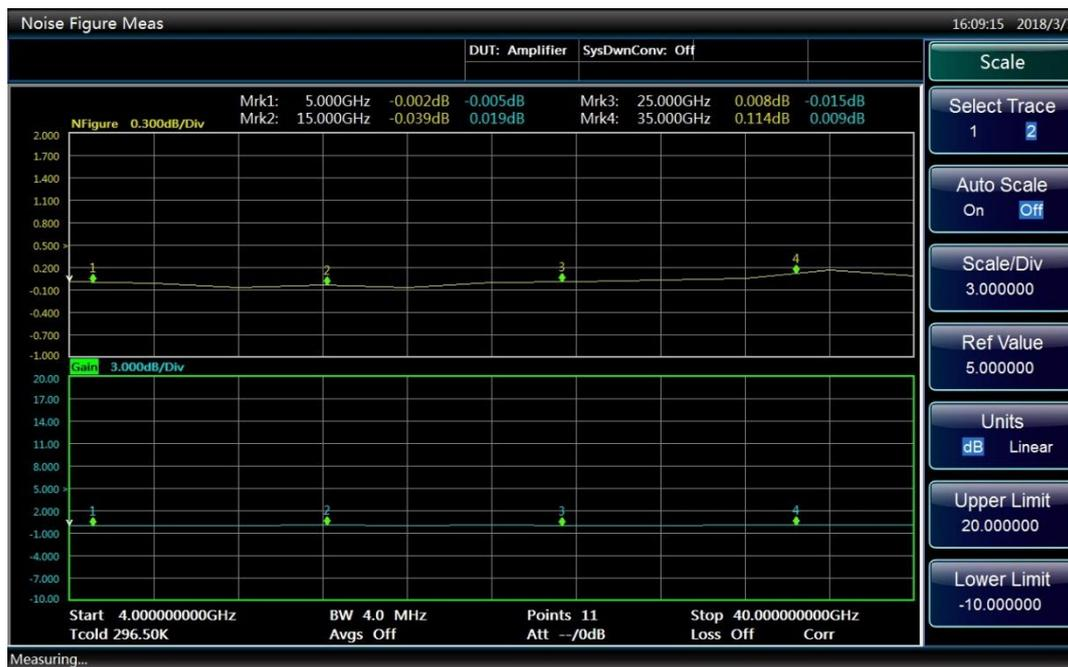

Fig. 3.38 Typical noise figure displayed on a graph
**Step 2.** Press the [Trace] menu key to select the active trace of which the scale you want to set. A typical noise figure display in graph format is shown in Fig. 3.38.